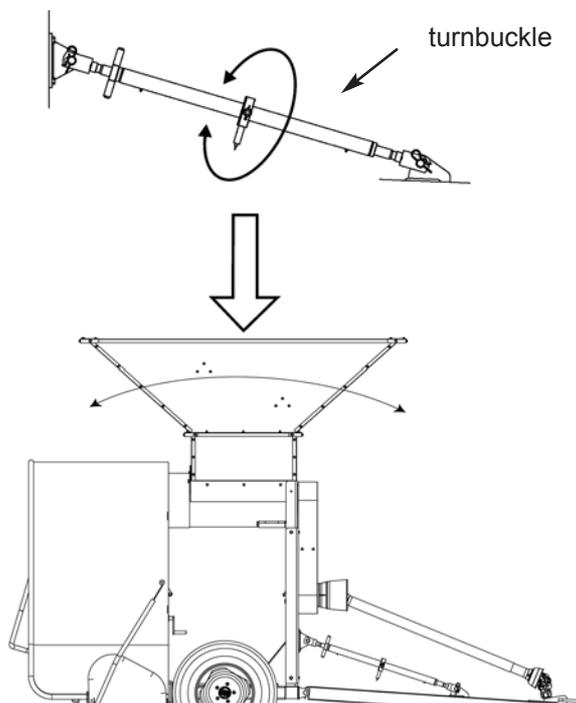

Figure 15 - Bagging machine leveled by means of the turnbuckle
12) Using the adjustment ratchet, level the machine taking as an approximate reference the upper rim of the grain receiving hopper as shown in Figure 15. If it were necessary to change the turnbuckle rotation direction, turn the lock latch 180°. This way, the correct tray-ground clearance is achieved and the tray is horizontal.